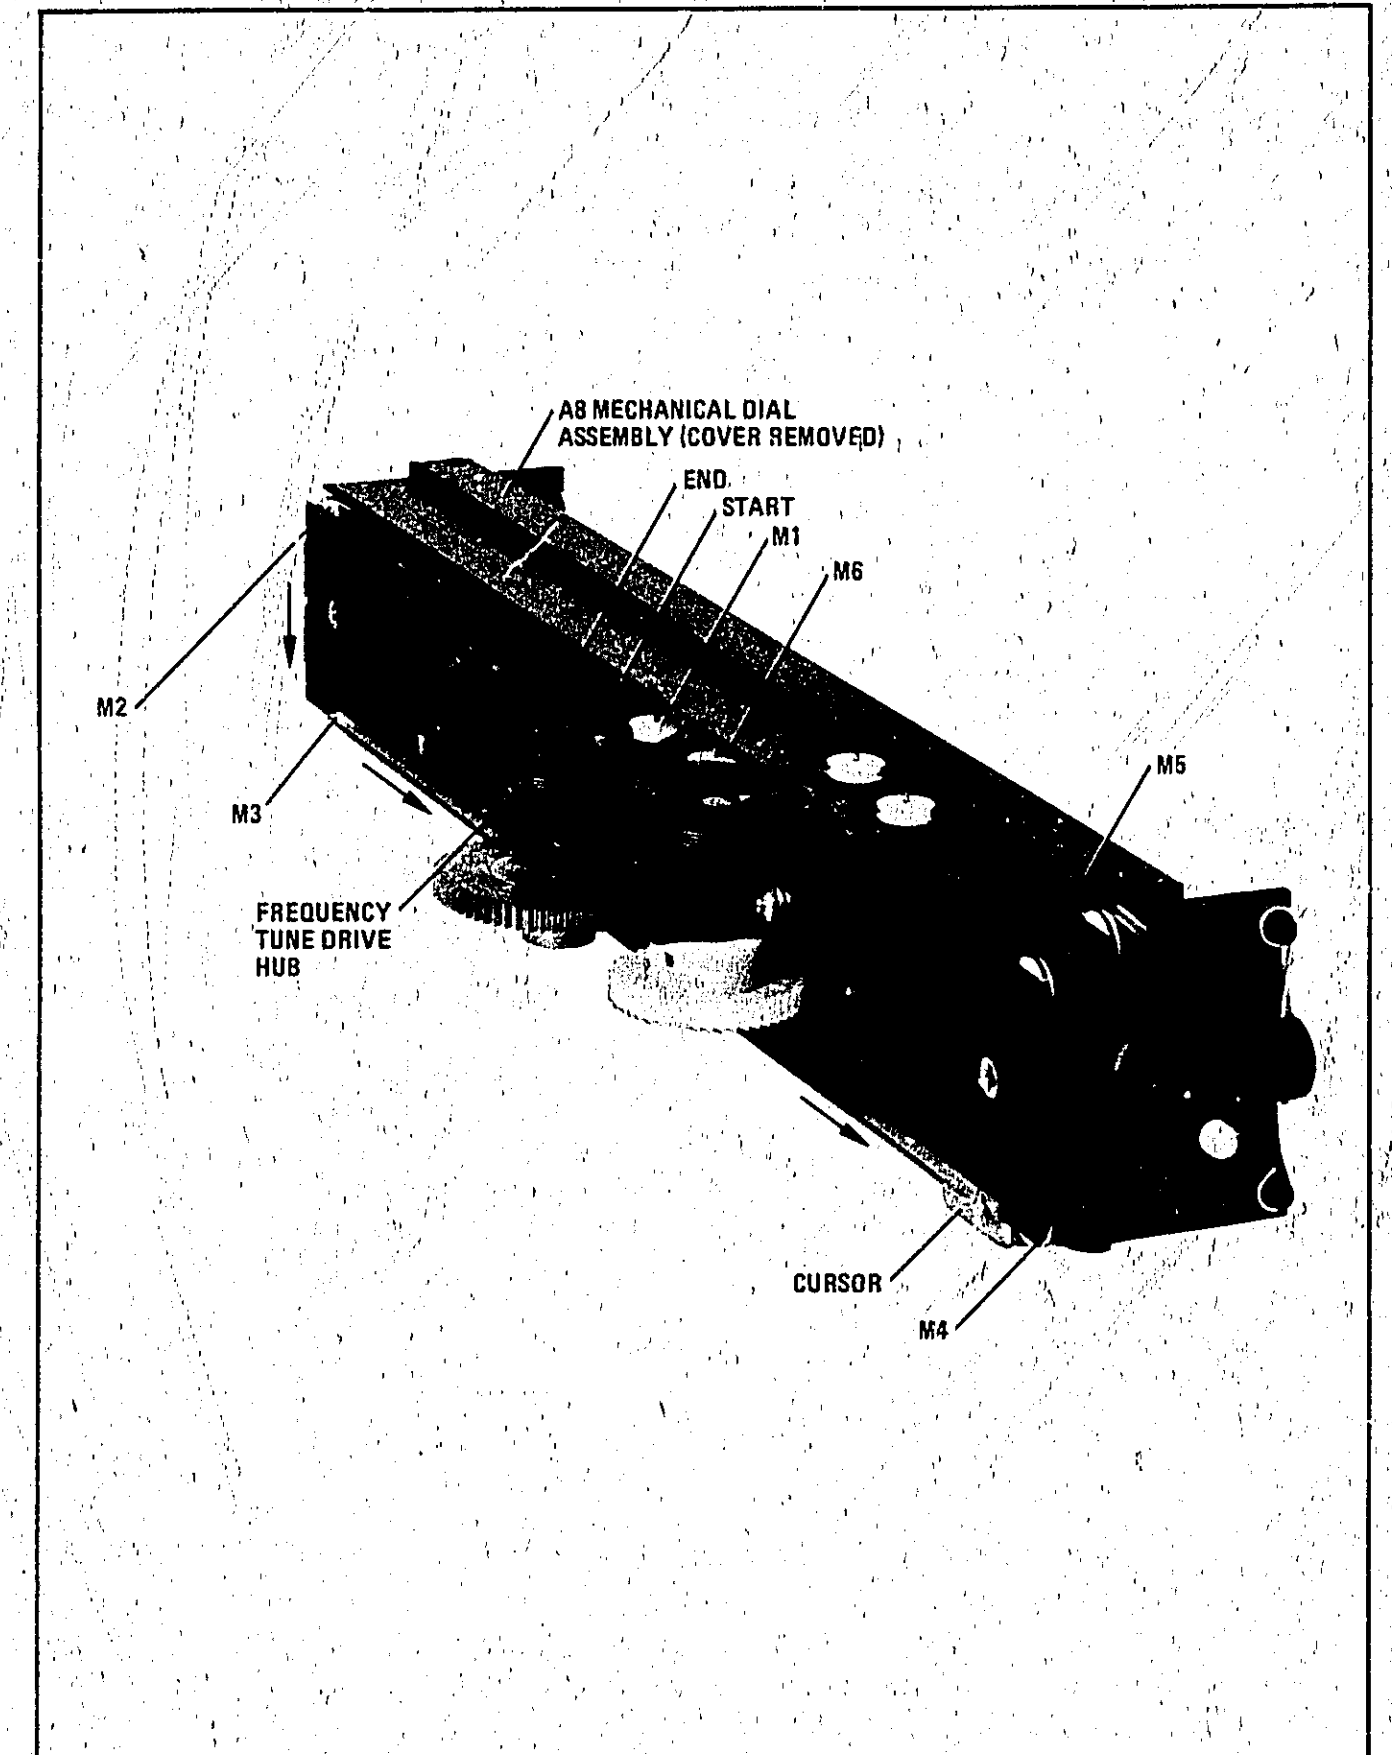

Figure 8-77. Frequency Tune Dial Cord Winding
4. Remove nylon fillister head screw holding dial cord to frequency tune drive hub (see View A). Using a 0.035 allen wrench, remove nylon setscrew (26) in cursor, and unstring dial cord from cursor and dial cord retainer (43). Discard old dial cord.
8. Thread frequency dial cord around the appropriate frequency pulleys M1, M2, M3, M4, M5, and M6 as shown in Figure 8-77. Rotate hub (40) clockwise (as viewed from rear of assembly) $3\frac{1}{4}$ turns. Feed cord under those windings and through the long slit in the hub. Secure the end of the cord with a nylon fillister head screw and tighten until the head of the screw is below the surface of the hub. Cut off excess dial cord.
9. Rotate frequency tune drive hub one-half additional turn for a total of 3-3/4 turns. At the extreme right hand side of the cursor track, attach cursor (25) to dial cable with a nylon setscrew (26). A 0.035 inch allen wrench is required.